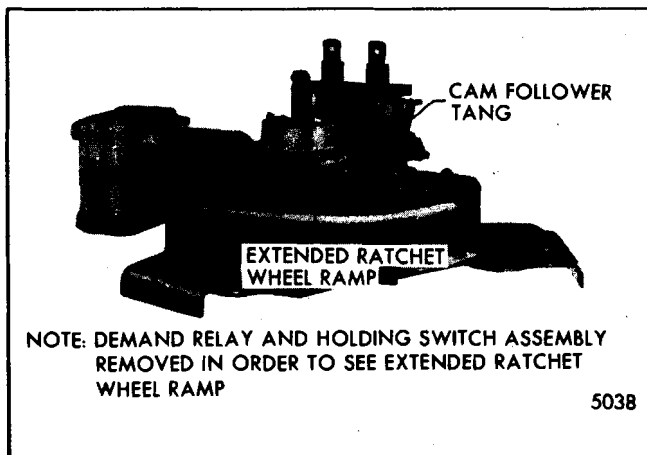

Fig. 2-74-Ratchet Wheel Ramp
4. The washing cycle is completed when an extended ramp on the lower surface of the ratchet wheel moves into position where the tang on the piston actuating plate rests on the ramp stopping the movement of the actuating plate (Fig. 2-74). However, the wiper motor continues to run to provide two additional drying wipes.